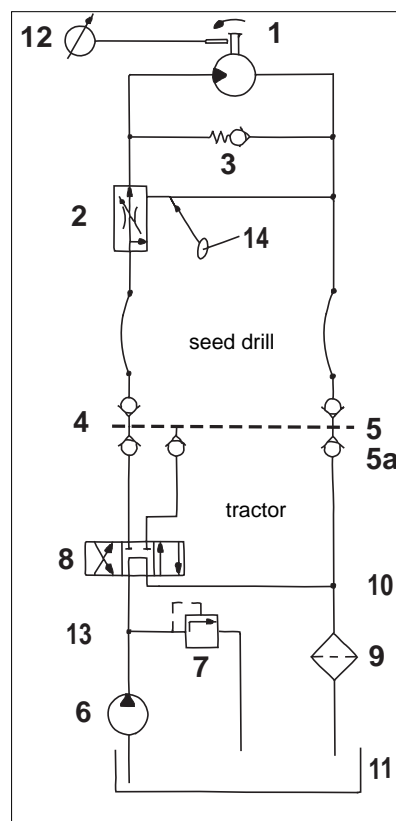

Fig. 23-1
Kverneland Soest seed drill models are all based on the same circuit diagram (fig. 23-1).
For normal operation, the tractor must be equipped with a single-acting or double-acting auxiliary control valve for the pressure line (fig. 23-1).
If the tractor is equipped with a variable displacement pump and a built-in flow control valve (closed hydraulic system), set the required flow rate at the tractor and fully open the three-way flow control valve (see fig. 23-1).
If the tractor is equipped with a variable displacement pump but not a standard flow control valve (closed hydraulic system), it will be necessary to convert the existing three-way flow control valve into a two-way valve by means of the conversion plate (Article No. 498853), see Figs. 23-1 / 23-2. This modification is necessary, for example, on all John Deere tractor models up to and including Series 50.
Use 12 mm nom. dia. piping (15 x 1.5 mm) for the return lines. The quick-release coupling socket (fig. 23-1) must be mounted on the tractor. When selecting the point at which the pressureless return line is connected back into the tractor's hydraulic system, give consideration to the following points:
- Adjust the fan speed (see Table 23-1 showing the fan speeds for the various seed drill models) by means of the three-way flow control valve located either on the seed drill or on the tractor (see fig. 23-1).
In the case of all subsequent start-ups with cold oil and the same setting of the three-way flow control valve (fig. 23-1), the fan will rotate slightly faster during the warming-up phase and then quickly slow down to the speed setting obtained during initial operation.
If several tractors are to be used in conjunction with the hydraulic fan drive, then you must adjust the setting of the three-way flow control valve (fig. 23-1) for each tractor.